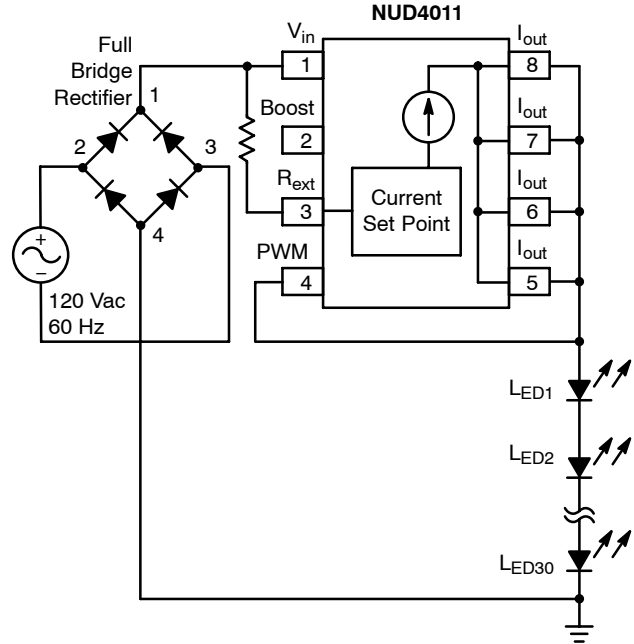

Figure 6. 120 Vac Application
- a. Per example in Figure 6,
Since a full bridge rectifier is being used (per Figure 6), the frequency of the voltage signal applied to the NUD4011 device is now 120 Hz. To simplify the calculation, it is assumed that the 120 Hz waveform is square shaped so that the following formula can be used: